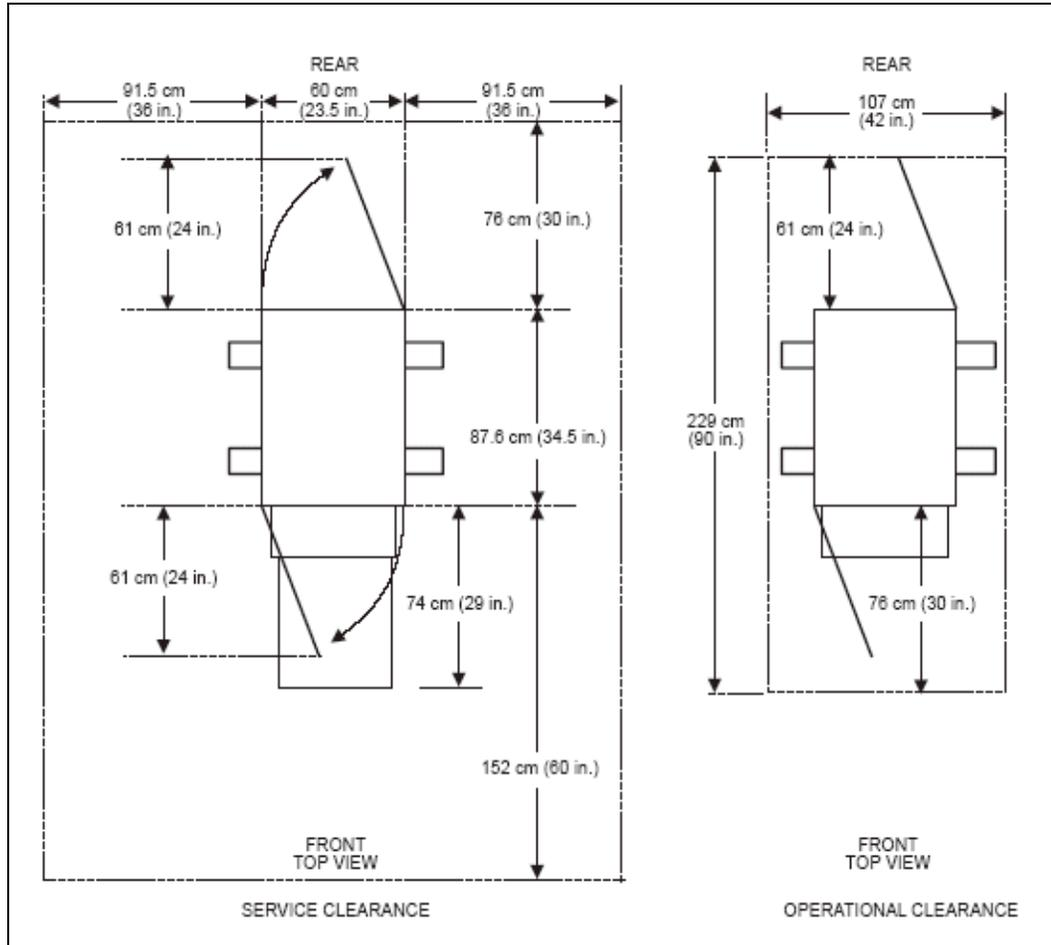

Figure 3-88 Example of service clearances for a 19-inch rack
You need at least 152 cm (60 in.) of space between 42-U rack suites. This space is necessary for opening the front and rear doors and for installing and servicing the rack. It also allows air circulation for cooling the equipment in the rack. All vertical rack measurements are given in rack units (U). One U is equal to 4.45 cm (1.75 in.). The U levels are marked on labels on one front mounting rail and one rear mounting rail. Figure 3-88 shows an example of the required service clearances for a 9306-900 42U rack.